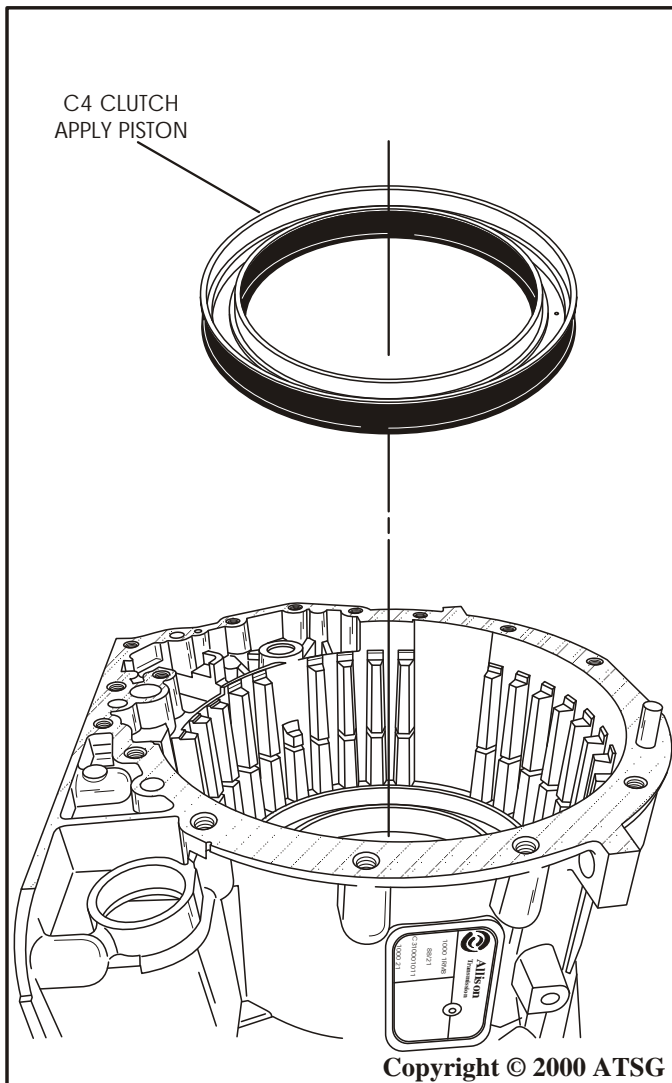

Figure 68
53. Remove the C4 clutch apply piston from case by blowing compressed air into the C4 clutch passage as shown in Figure 68.